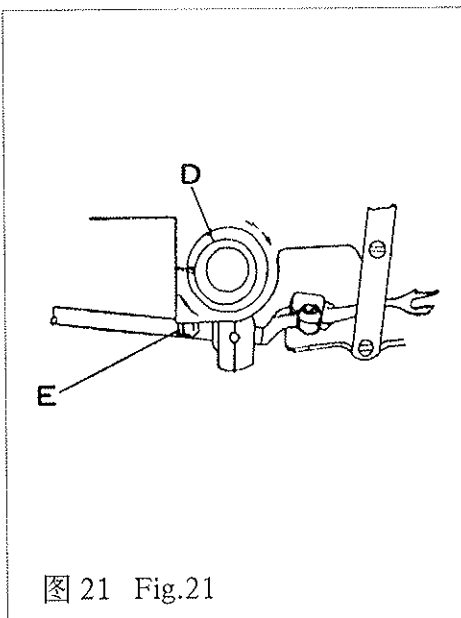

图 21 Fig.21
①旋松紧固螺栓“E”,左右移动偏心支承套“D”,达到上述要求时,旋紧紧固螺栓“E”(图 21)。
①Loosen set bolt "E", move the eccentric supporting sleeve "D" rightward and leftward, and tighten the set bolt "E" (Fig.21)
①旋松紧固螺栓“E”(图 21),周向转动偏心支承套“D”,使钩线叉在右端时达到上述要求。
①Loosen set screw "E" (Fig.21) and turn the eccentric supporting sleeve "D" so that when the thread hook is at the right end may comply with the above-said requirements.